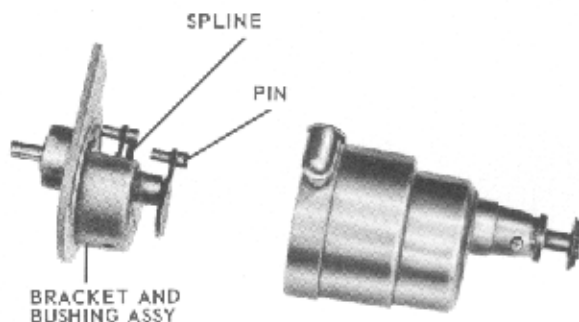

FIGURE 11
i. Disassembly of the intermittent should not be made in most cases and under no circumstances should the intermittent be disassembled beyond removal of the BRACKET AND BUSHING ASSEMBLY, figure 11. Travel ghost that can be corrected in no other way may be due to a loosened or shifted SPLINE in either stage of acceleration. If the re-
lationship of the parts of the bracket and bushing assembly is not as shown in figure 11, loosen the spline and realign the second PIN with the first.